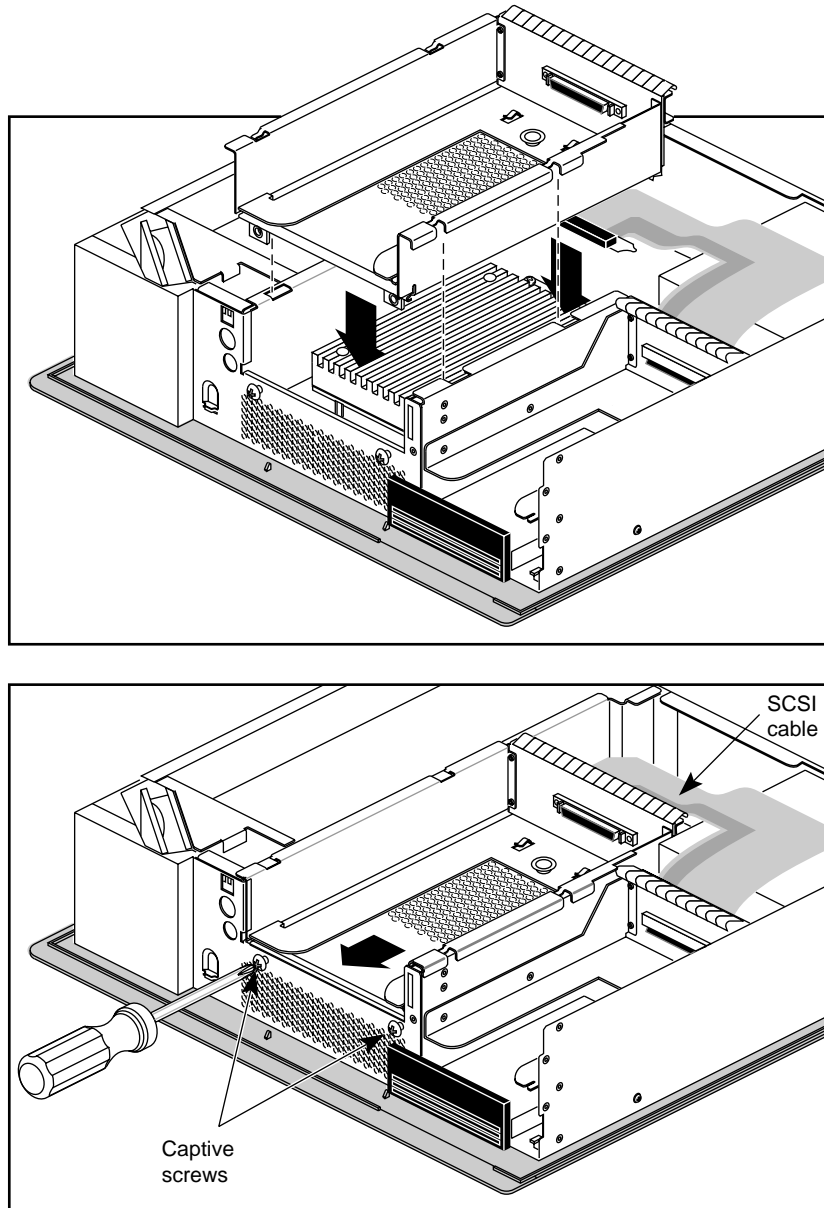

Figure 2-18 Reinstalling the 5-1/4 Inch Drive Tray
16. Reinstall the 5-1/4 inch drive tray and reattach the flat SCSI cable and retention clips. When lowering the tray, keep it level, as shown in Figure 2-18, to avoid hitting the CPU module with a corner of the drive tray.